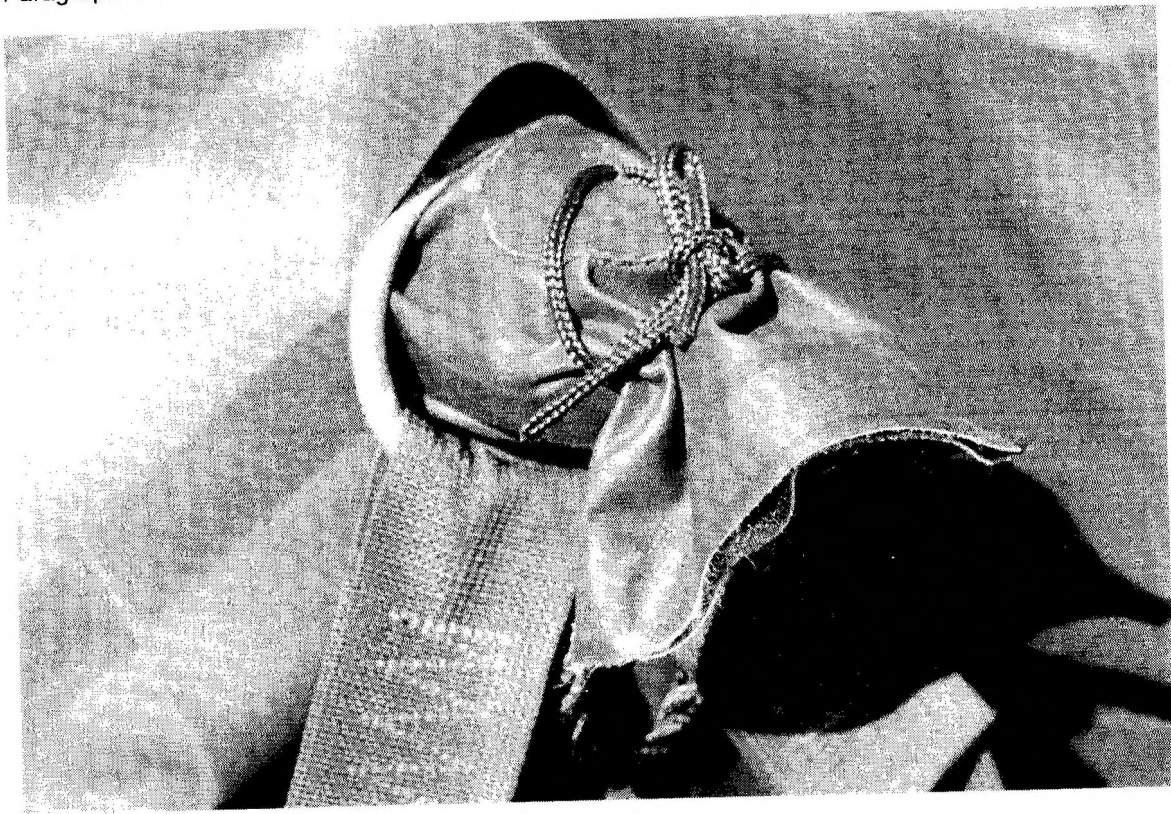

Figure 37: Locating the End Guy Strap on the Apex spigot
42. The Overstrap (J11/8340-99-575-0778) (Qty 3) and End Guy Strap (J11/8340-99-126-4530) (Qty 2) should be placed over the shelter Fig 37 and 38. The Overstrap should be fitted at both ends and in the centre. The End Guy is fitted at both ends. Details for final installation of these items are given at Paragraph 49.
51. The Overstrap (J11/8340-99-575-0778) (Qty 3) and End Guy Strap (J11/8340-99-126-4530) (Qty 2) Fig 37 and 38 should now be pegged down.